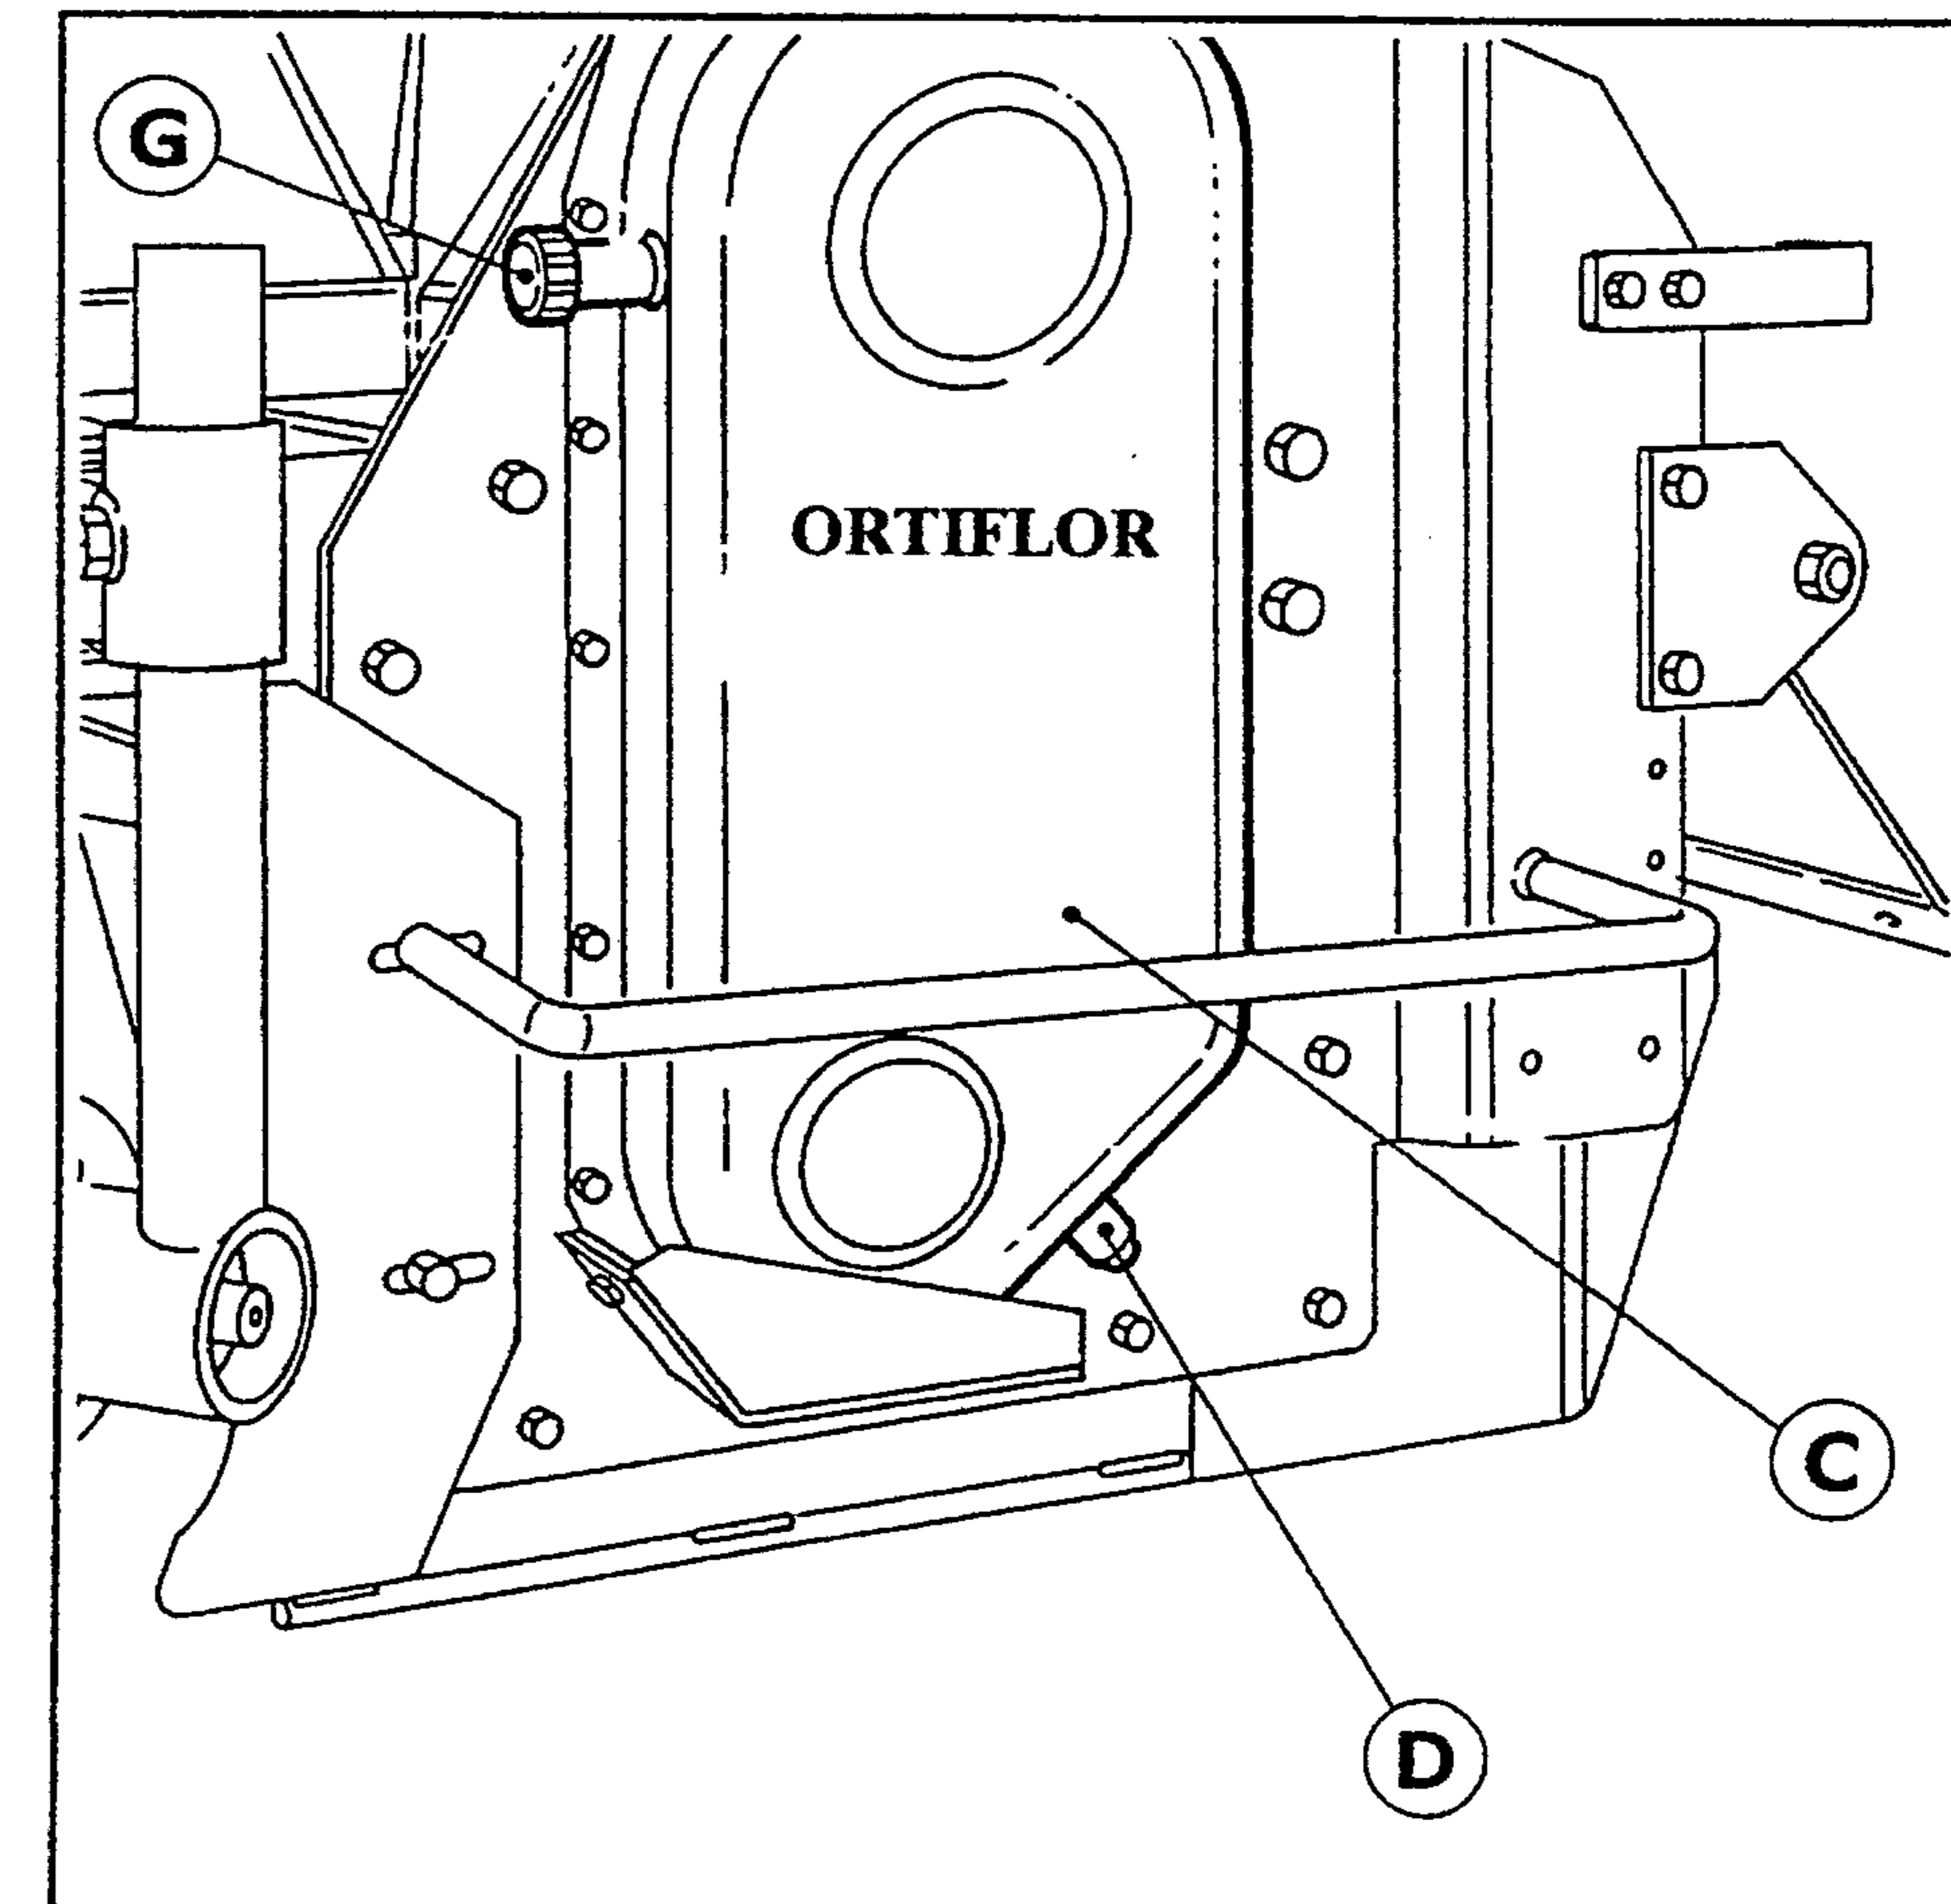

Fig. 11
Yearly: Check the oil level in the transmission-chain housing (C - Fig. 11) through the plug (D). Top up, if necessary, through the plug (G).